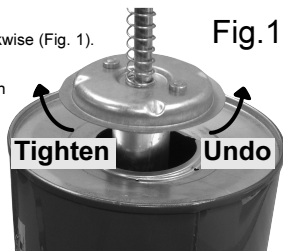

Fig. 1
- 3.1.1 To fill the can, remove the plunger mechanism by twisting through 90° anti-clockwise (Fig. 1).